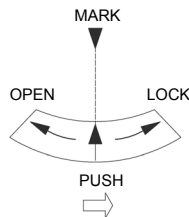

Figure 9
- 6) It's ok to fix the dome to the bracket with hexagon socket head cap screw (Figure 9).